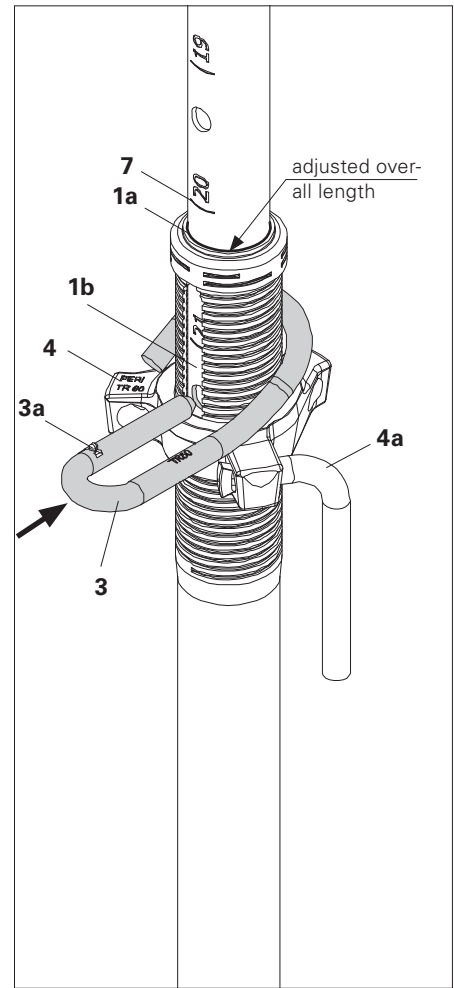

Fig. A1.01a
3. Insert G-hook (3) in the visible hole and push in as far as possible (3a). → inner tube is now fixed. (Fig. A1.01a)
4. Turn adjusting nut (4) on the grip (4a) to the required size. (Fig. A1.01a)